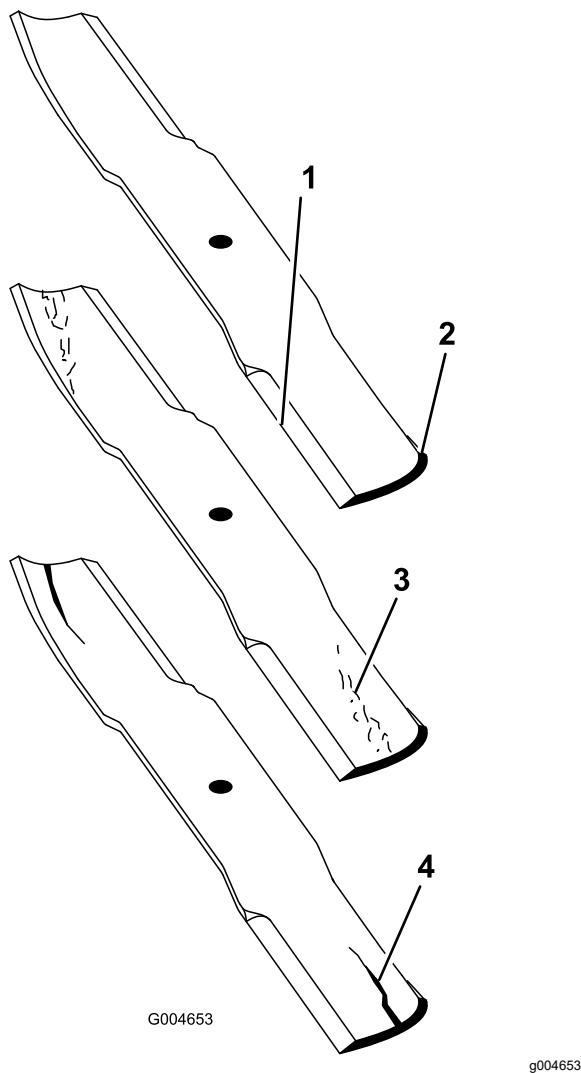

Figure 25
3. Examine the cutting ends of the blade carefully, especially where the flat and curved parts of the blade meet (**Figure 25**).
Note: Because sand and abrasive material can wear away the metal that connects the flat and curved parts of the blade, check the blade before using the mower. If you notice wear (**Figure 25**), replace the blade.